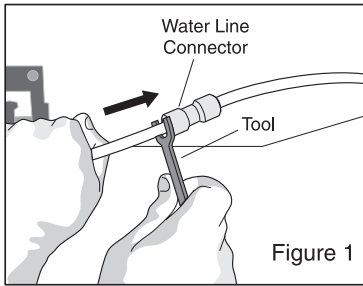

Figure 1
2. To disconnect water line, grip tube firmly in left hand and use tool (located in bag under toe grille) to push in on gray collar to release water connector (Figure 1).